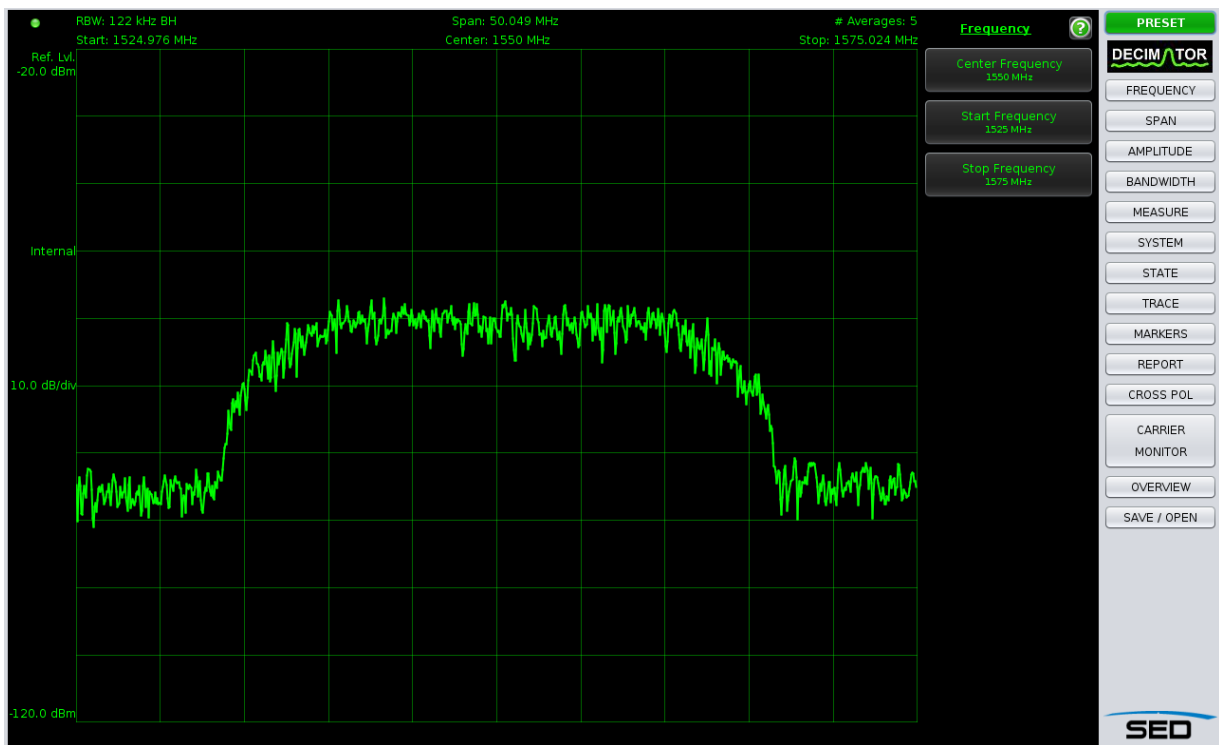

Figure 3 Main Decimator UI Screen
- The main Decimator UI is displayed in the browser as shown in Figure 3 with no need to install any local software!
The Decimator can be controlled remotely using the provided TCP-IP ASCII based API so that you can integrate it into your NMS to measure a particular carrier(s), or you can use it interactively via the web interface. We will focus our attention on using the web interface to give you a tour of the rich features of the Decimator. The first thing you will notice about the UI as shown in Figure 3 is that it looks like a spectrum analyzer front panel. Just wait, it feels like one too! This intuitive design allows you to use it right out of the box, without reading the manual.